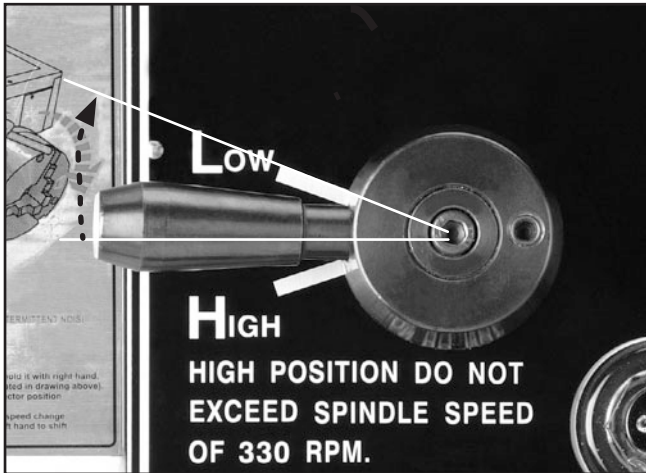

Figure 21. Gearbox range lever.
3. Move the gearbox range lever (**Figure 21**) to low range.